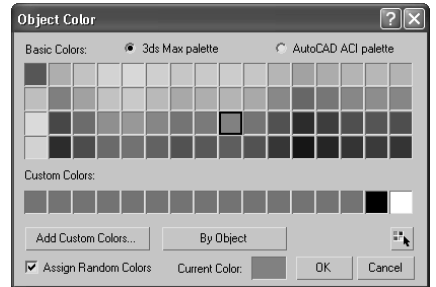

Figure 2.6
4. With the cylinder still selected in the Perspective panel, click the Modify tab (🔧) in the Command panel to bring up all the nifty tools you can use to modify objects in Max. You will rename the cylinder and size it to be a bar for the mobile. At the top of the panel, you'll notice a text box with *Cylinder01* and a colored square next to it, as shown in Figure 2.5. The color swatch is the Object Color, and it helps you organize your elements in a scene. The color is easily changed by clicking on the swatch and simply choosing another color from the window that pops up (as seen in Figure 2.6).